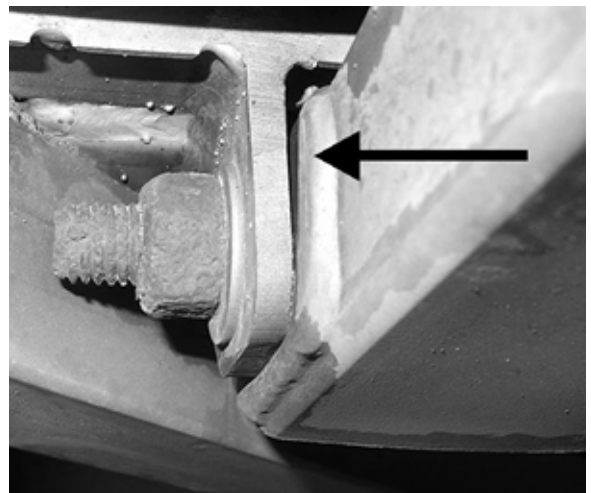

FIGURE 28: VISIBLE GAP ON TRANSVERSAL SCREW JOINT
5. On the transversal screw joints (Figure 28) any visible gap between cradle support tubing and vehicle frame mounting lugs is not acceptable.